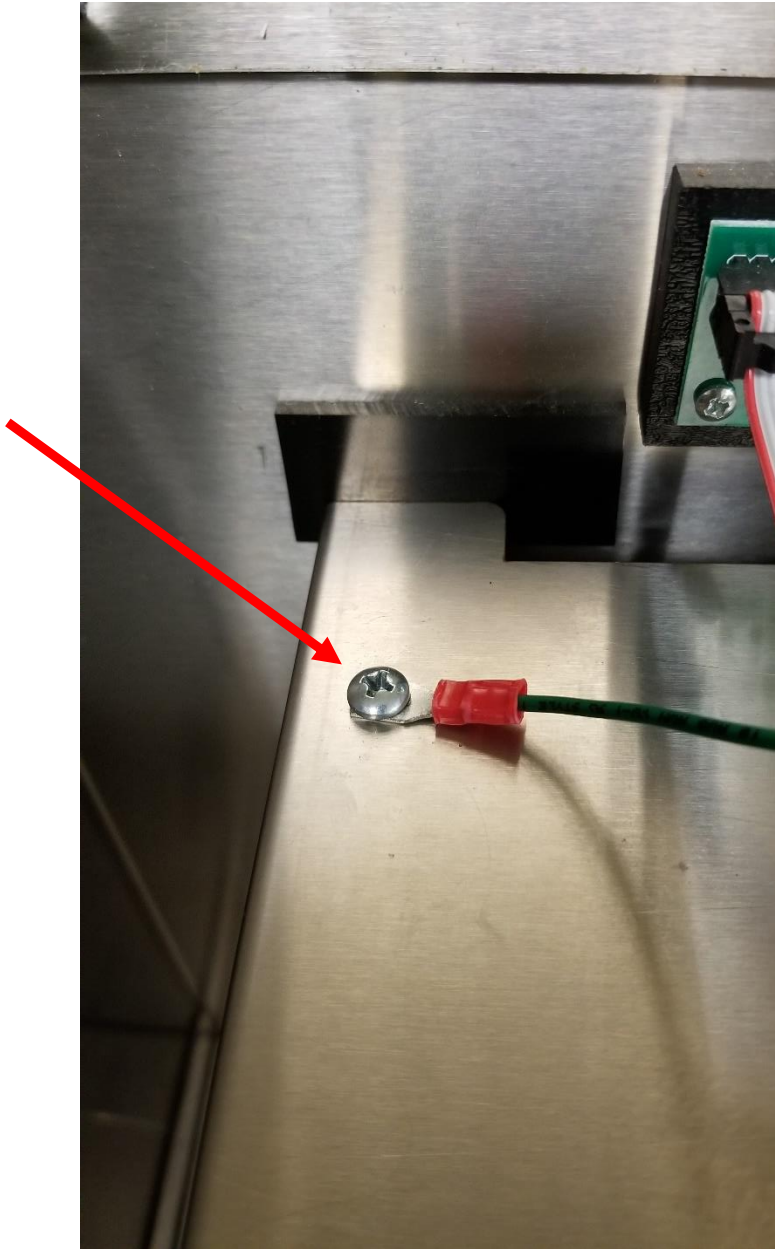

Figure 7
5. Loosen grounding screw on top of Step Filter housing and remove ground wire. See Figure 7.